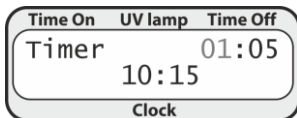

Figure 8. Timer mode setup
6.5. **Timer mode (figure 8, figure 11).** Select the mode (see 6.3). Setup the timer (top line) and current time (optional, bottom line). Press ►/■ to apply the changes.